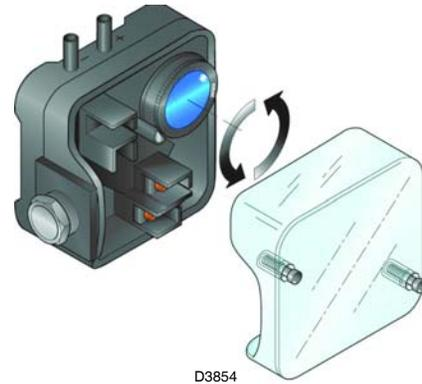

Fig. 40
- Adjust the air pressure switch (Fig. 40) to the start of the scale.